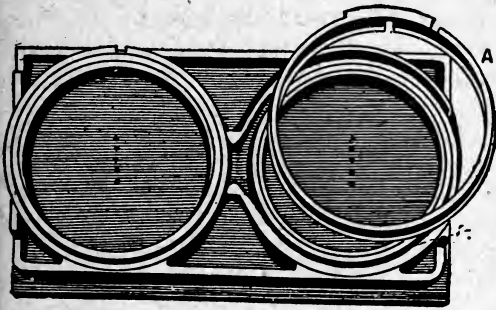

Fig. 15. Double Cone American Balance Valve
The American balance valve gives similar results to the Allen Richardson balanced valve, but uses circular tapering rings. Fig 15 shows one ring (A) removed from disk (B), which is cone-shaped and upon which the rings are fitted and are a spring within themselves. When the steam is admitted to the steam chest